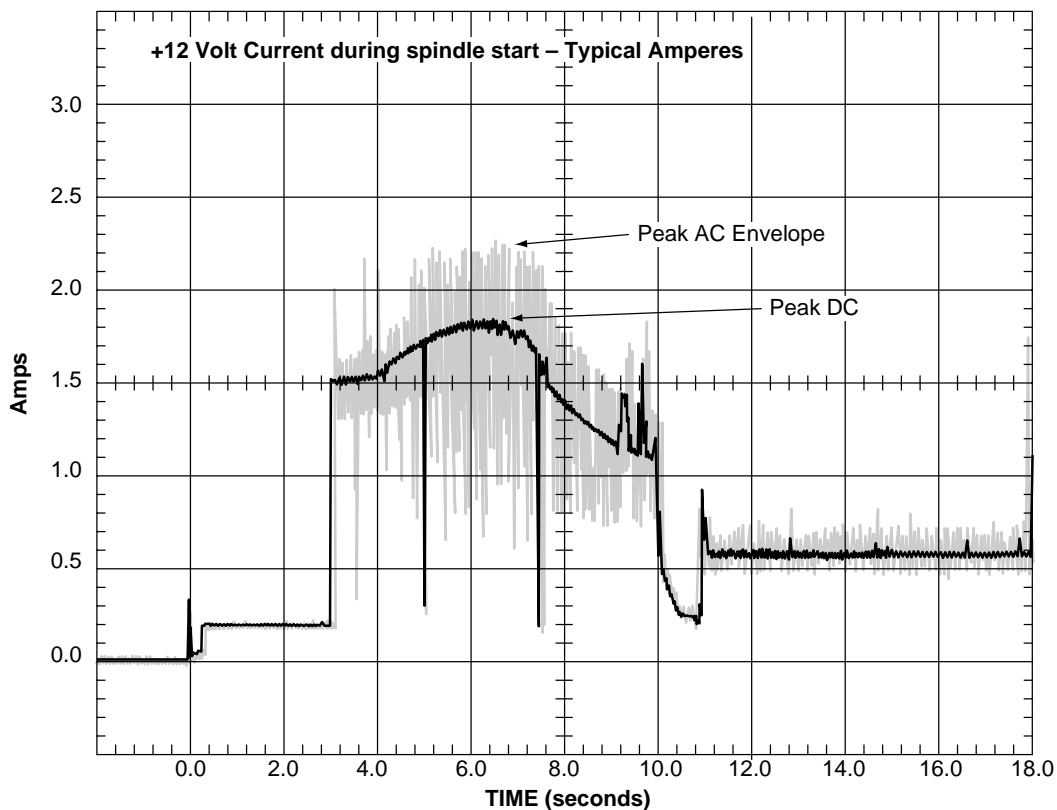
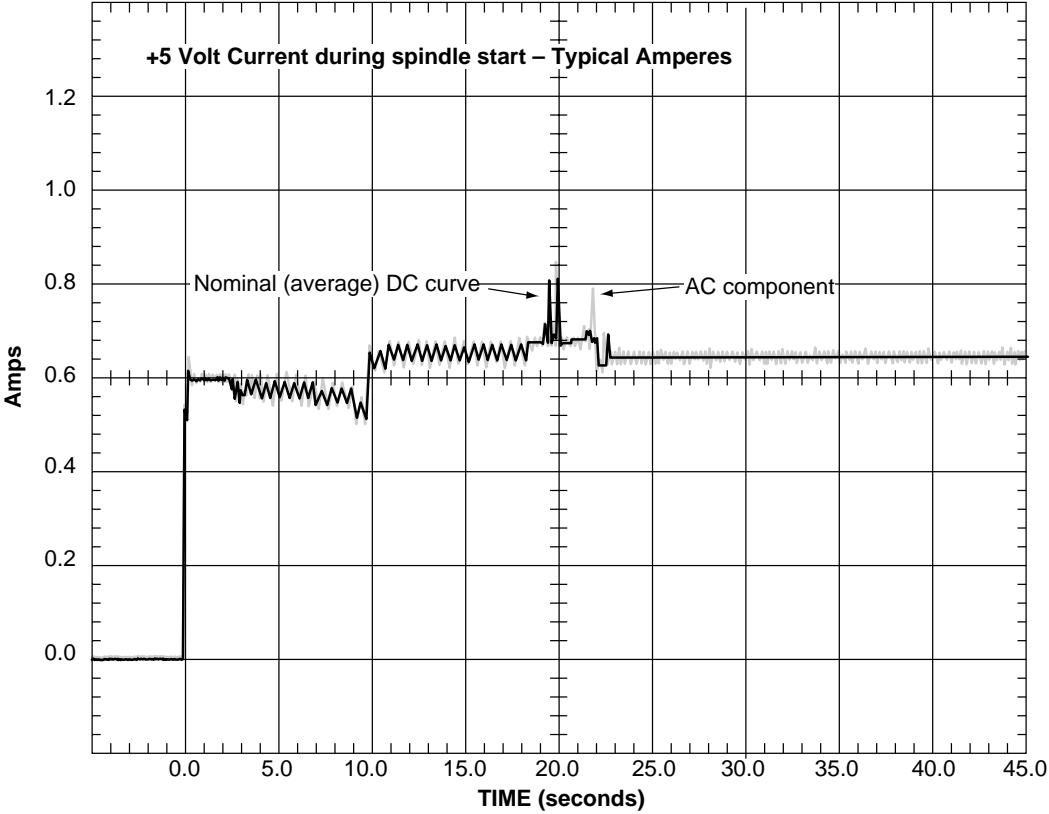

Figure 3. Typical Barracuda 18LP FC drive +12V current profile
Figure 4. Typical Barracuda 18LP FC drive +5V current profile
- [3] See +12V current profile in Figure 3.
Figure 3 identifies the drive +12V current profile and Figure 4 identifies the drive +5V current profile. The current during the various times is as shown: